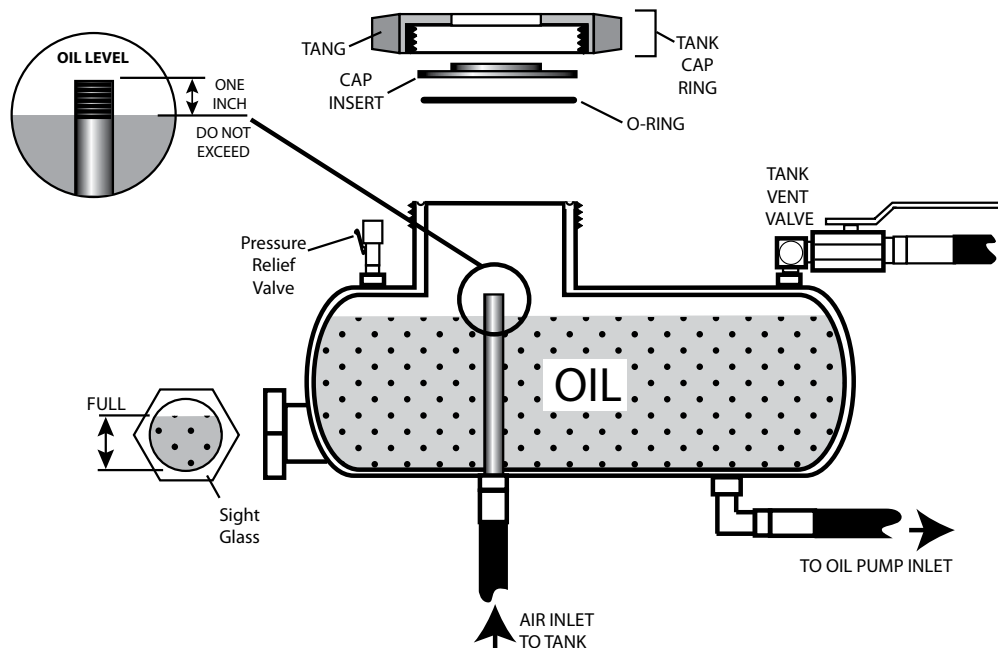

Fig. 49
- c) When oil tank is fully vented, use a hammer to loosen the tangs on the 4 inch oil tank cap, then unscrew and remove the cap by hand.(see Fig. 49).